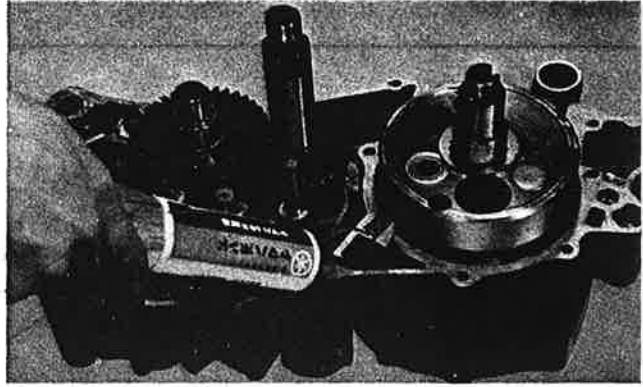

Fig. 3-4-5
1. Apply Yamaha Bond No. 4 to the mating surfaces of both case halves. Apply thoroughly, over all mating surfaces. (Fig. 3-4-5)